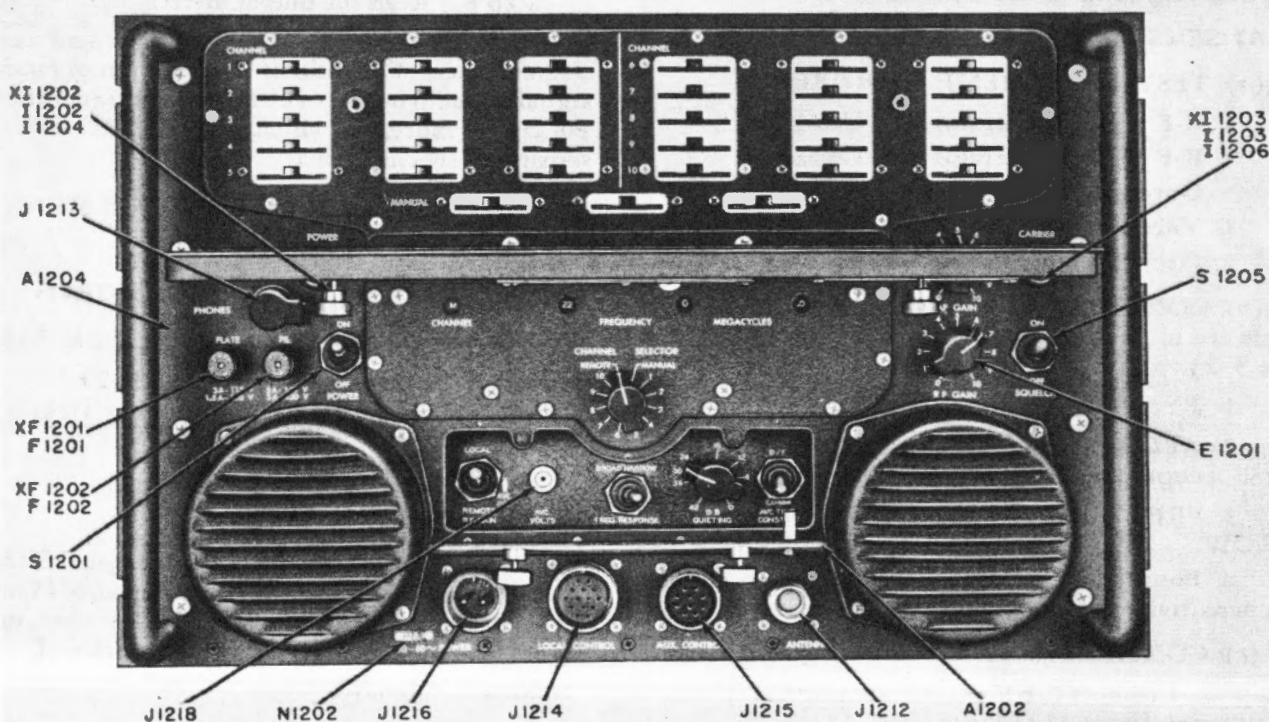

Figure 6-12. Radio Receiver R-278B/GR, Front Panel
**(c) CONNECTIONS.**—Connect the R-F Signal Generator to antenna input J1212 (figure 6-12).
Step 1. Connect the R-F Signal Generator to antenna input J1212 (figure 6-12).
Step 1. Connect R-F Signal Generator AN/URM-26 to antenna input J1212 (figure 6-12).